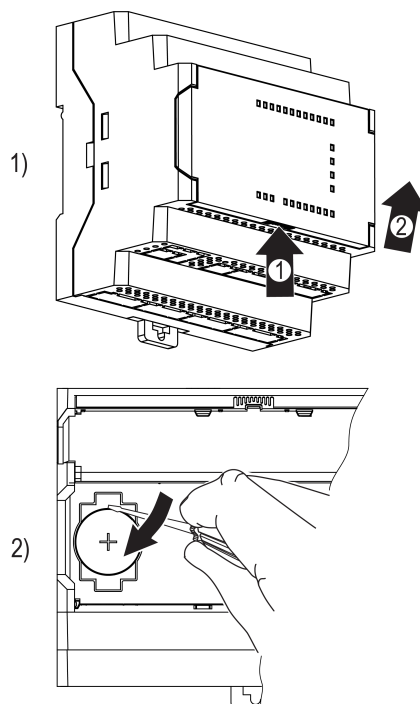

Fig. 8.1 Battery replacement
1. Holding on to the ribbed area (see Fig. 8.1, 1, arrow 1), open the front cover (arrow 2).
2. Pick up the battery on the right side with a screwdriver and, while holding it, pull the battery out of its holder (see Fig. 8.1, 2).